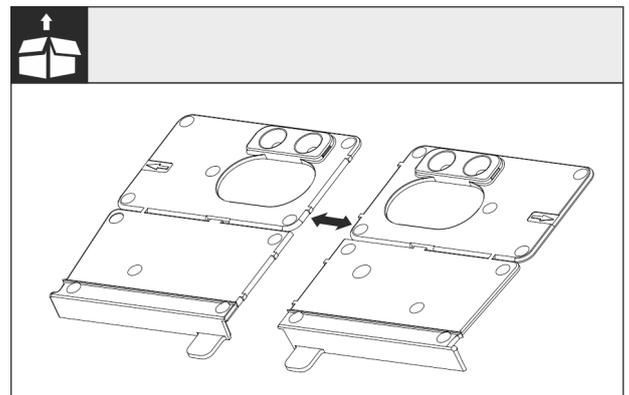

Fig. 24
► Separate the floor mounting bracket Fig. 24 () at the perforation.